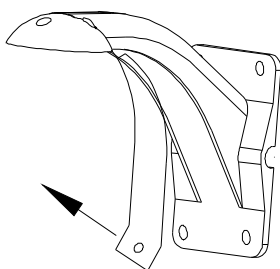

Figure 7
- 2) Take out the cover of the wall-installed bracket (see Figure 7).